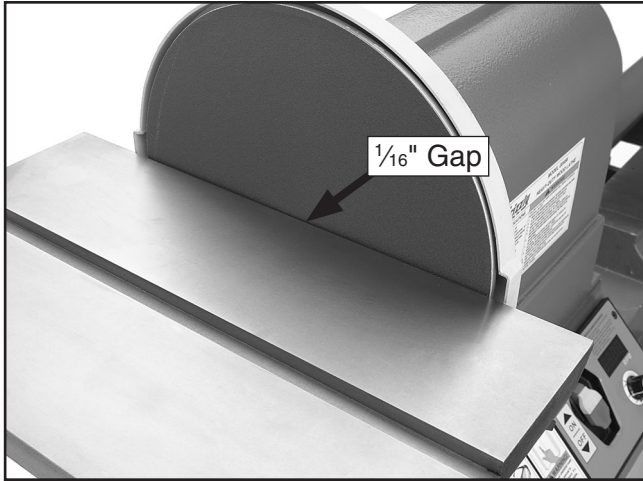

Figure 54. Table aligned with sanding disc.
- Align the table so that there is approximately a $\frac{1}{16}$ " gap between the 12" disc and the table (**Figure 54**).